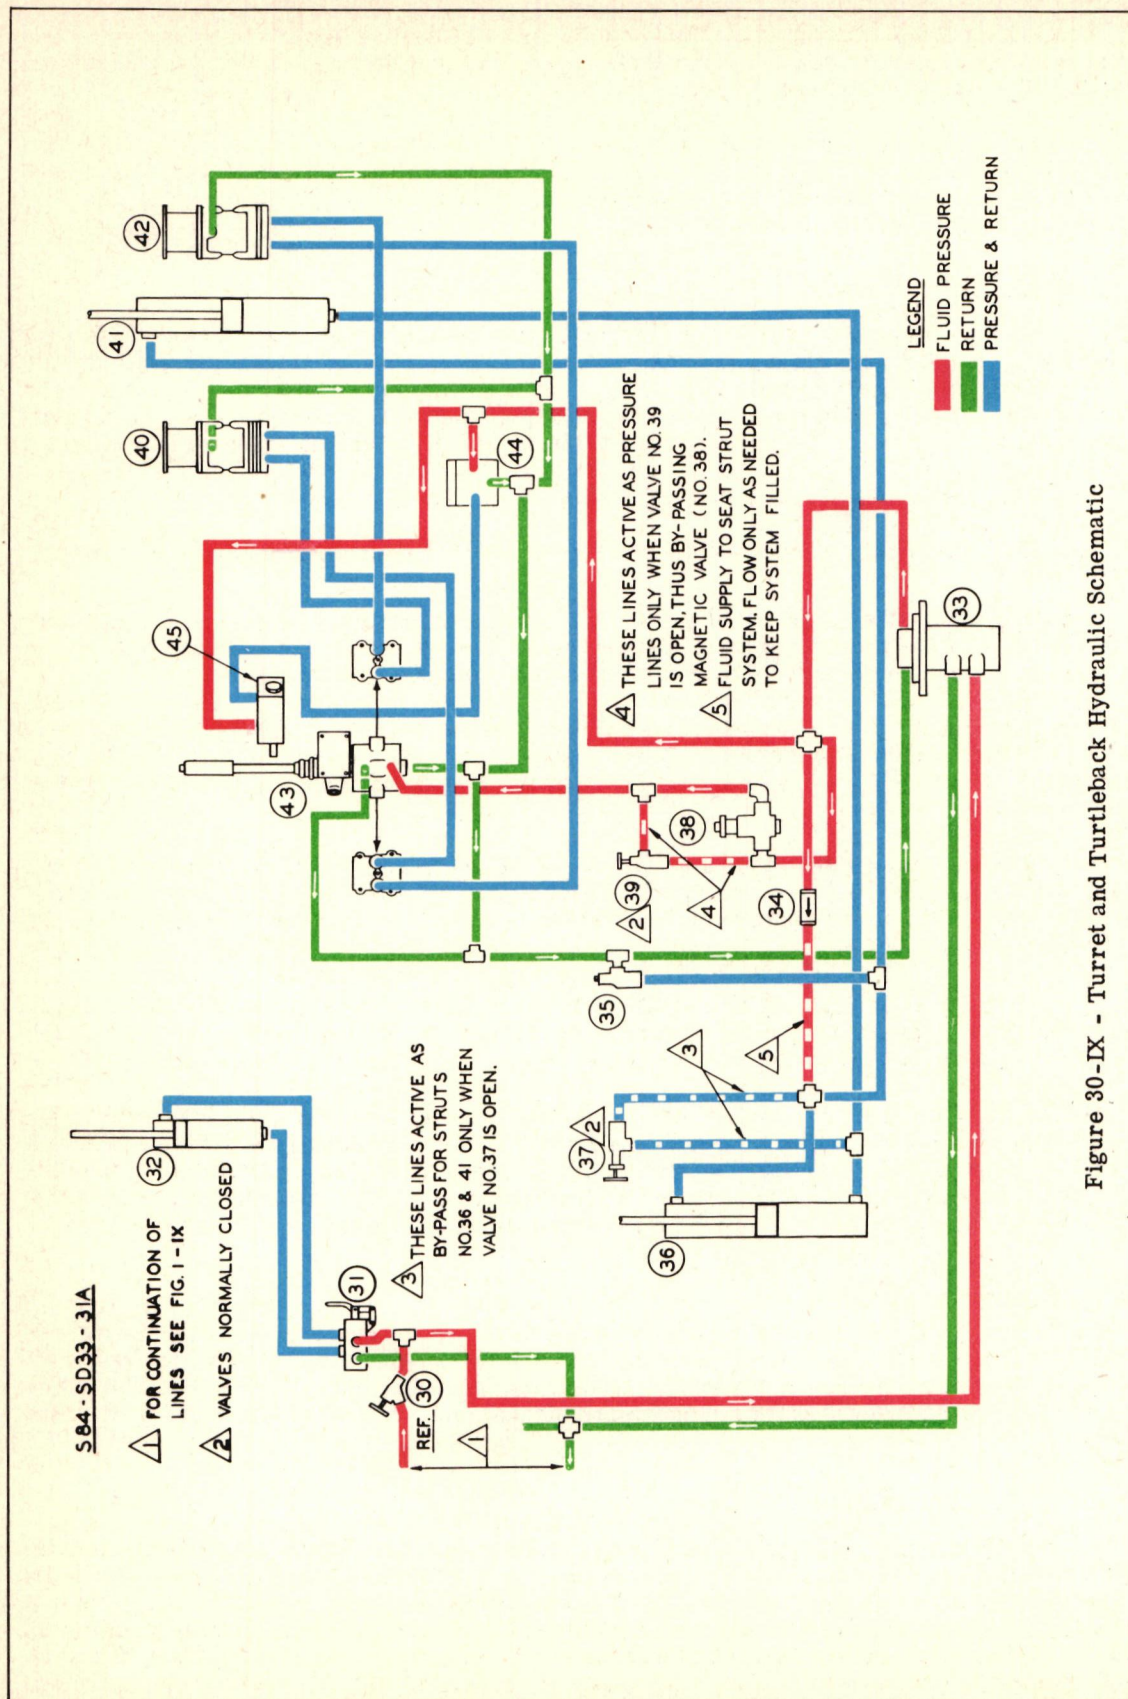

Figure 30-IX - Turret and Turtleback Hydraulic Schematic
a. Description.- The turtleback aft of the turret may be collapsed hydraulically to permit greater firing range of the turret gun. The sections of the turtleback are hinged longitudinally and are supported by an umbrella-type strut arrangement which, in turn is operated by a hydraulic strut. The hydraulic strut is controlled by a two-piston valve which is mounted on the upper radio shelf near the center line of the airplane. Operating pressure is obtained from the main hydraulic system, but is subject to control by both shut-off valves, item 8 of fig. 1-IX. The turtleback hydraulic system is shown in schematic form on fig. 30-IX.
(1) Description and Operation.- The system is shown schematically on fig. 30-IX. Hydraulic pressure for operating the turret is obtained through a swivel from the main hydraulic system, which is shown on figs. 1-IX and 30-IX. The swivel is shown on fig. 34-IX. This unit is installed at the bottom of the turret on the rotational axis, and provides hydraulic pressure, return lines, and electric power connections for the turret. The unit also includes a micro-switch and profile cam that serve as a fire-interrupter in the gun trigger circuit to prevent firing into the airplane.
Referring to fig. 30-IX, note that a branch from the return line between the turret control valve and the turret lock valve connects to the high pressure supply line through a check valve. The function of this check valve is to relieve pressure above supply pressure which may build up in the return line, due to sudden closing of the magnetic valve and to the inertia of the moving turret or gun. By relieving into the high pressure line rather than into the return line beyond the turret lock valve, the Vickers motors and the turret control valve are under more or less constant hydraulic pressure, which insures positive control and smooth action.